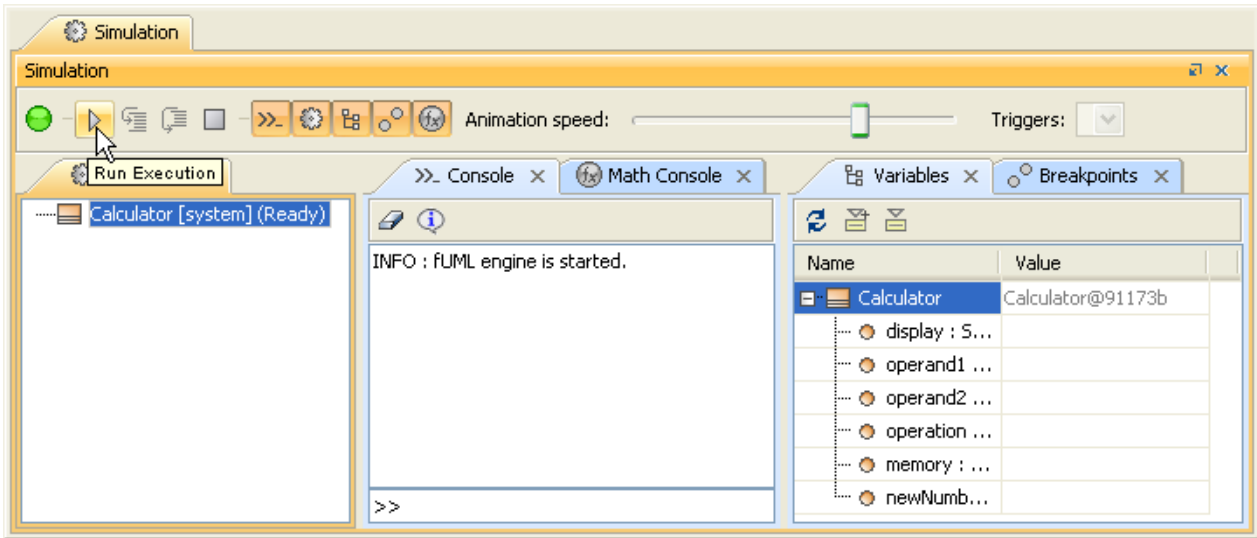

Figure 3 -- Run Execution Button in the Simulation Window
2. The **Simulation Window** will open. The Simulation session will automatically be started and displayed in the **Sessions Pane** (Figure 3). The session corresponds to the selected element in the active diagram.
3. Click the **Run Execution** button  on the toolbar (Figure 3) to execute the model.